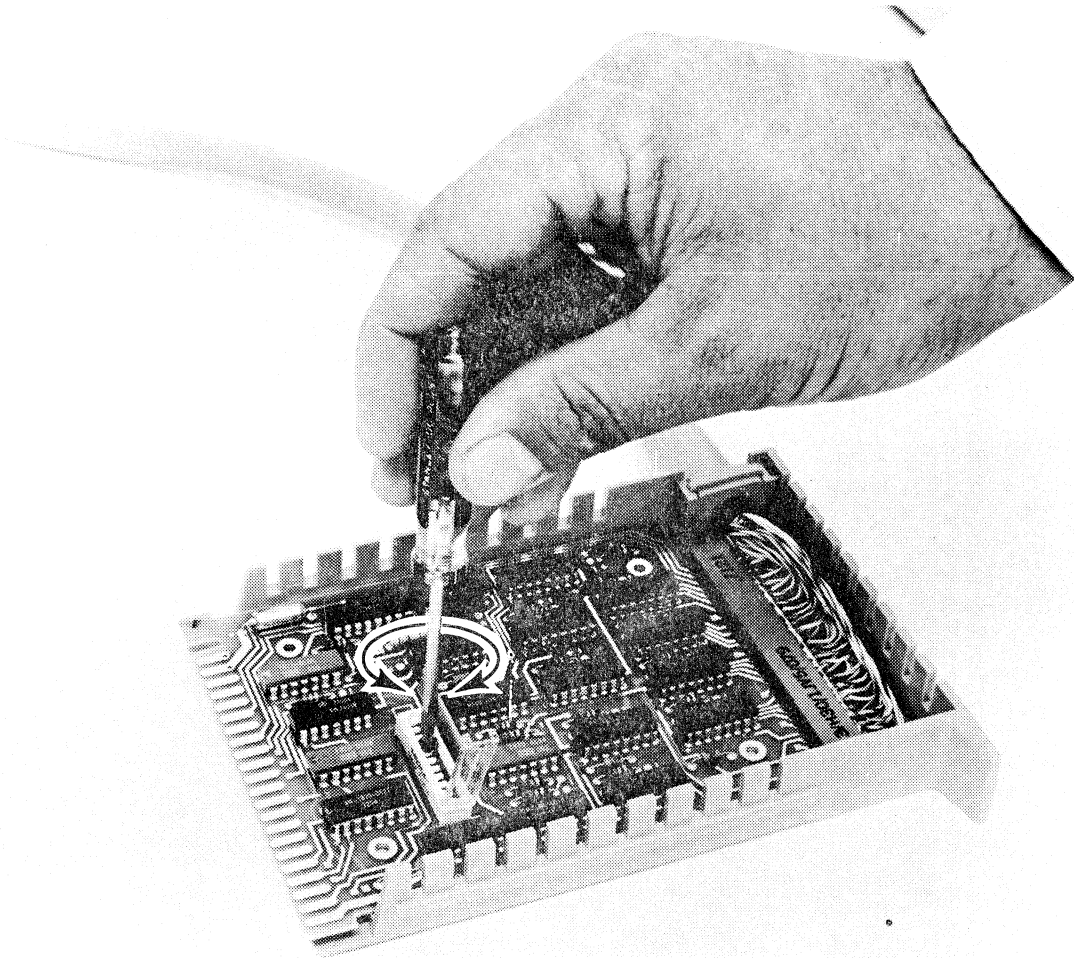

Figure 1. Setting the Select Code
3. Locate the Select Code Switch (see Figure 1). Raise the hinged cover on the switch. Using a small, flat-blade screwdriver, carefully rotate the selector-tab until it is positioned at the desired select code number (numbers are printed on the side and on the top cover of the switch). Before closing the cover, be sure the slot in the selector-tab is positioned at a right angle with respect to the length of the switch.